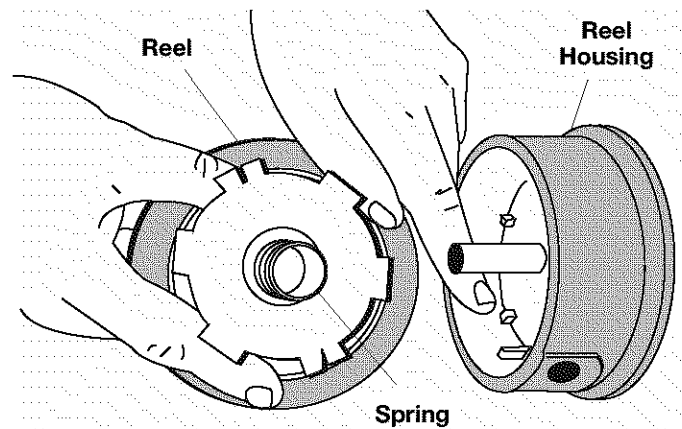

Fig. 30
3. Use a clean cloth to clean the inner surface of the reel housing (Fig. 30).
4. Check the indexing teeth on the reel and reel housing for wear. If necessary, remove any burrs or replace the reel or reel housing (Fig. 30).
4. Use a clean cloth to clean the inner surface of the reel housing (Fig. 30).